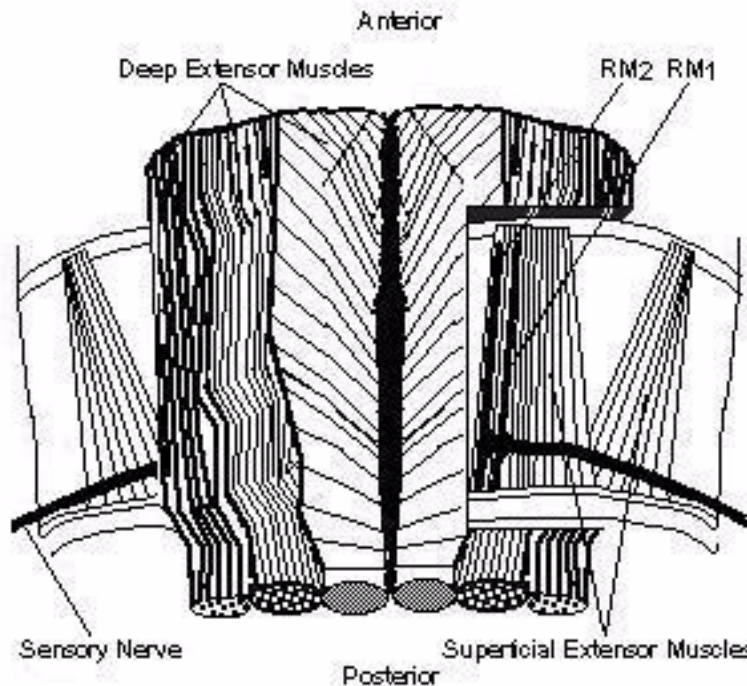

Figure 3-4: Ventral aspect of the second abdominal segment of crayfish. Dorsal musculature removed on the right side and intact on the left side.
- 10 Examine the preparation, compare with Figure 3-4 on page 6 and identify: